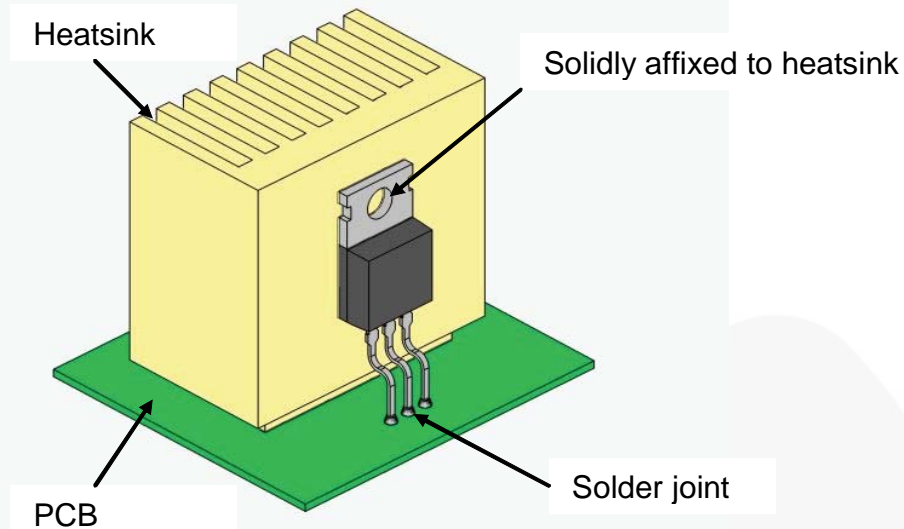
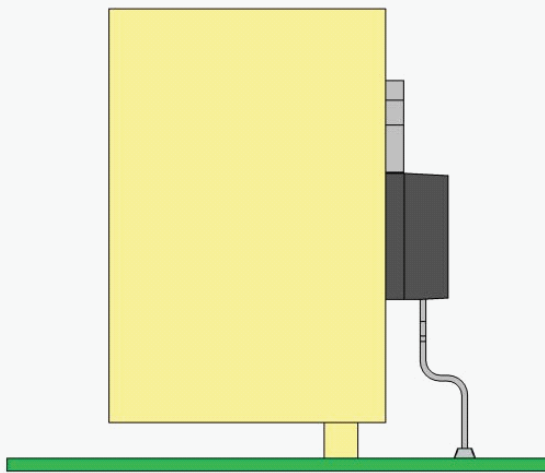
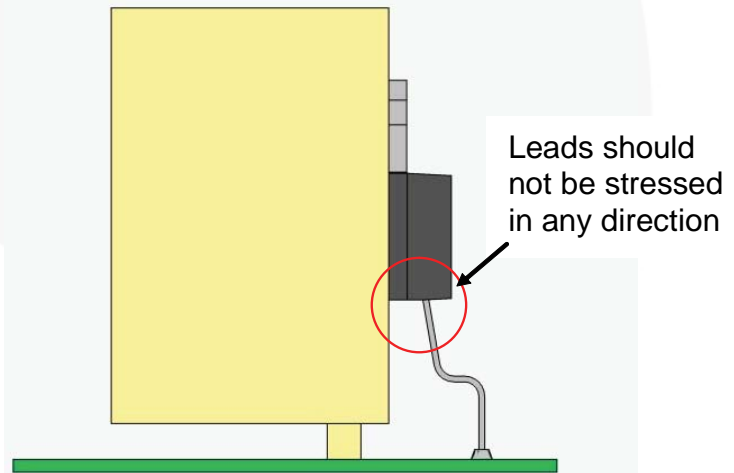

Figure 8. Package Mounted on Heatsink and PCB
Figure 9. Correct Placement
Figure 10. Incorrect Placement
is being inserted into the circuit board. (see *Figure 8, Figure 9, Figure 10*).
- When the device is mounted on the heatsink and is in position on the circuit board, there should be no strain on the leads of the device in any direction (*see Figure 8, Figure 9, Figure 10*).